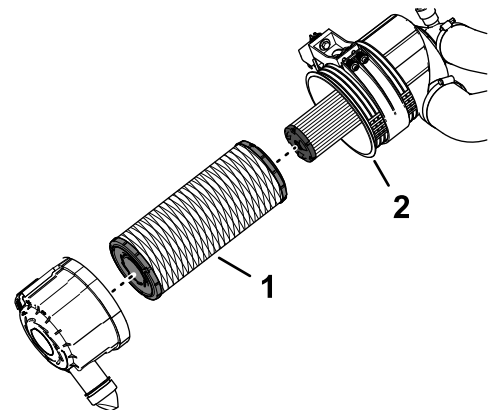

Figure 120
7. Remove the primary-filter element (Figure 120).